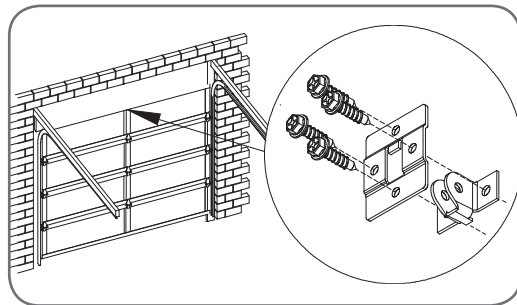

Fig. 22
The door bracket comes in two parts. The bottom plate with two mounting holes is used on its own for one piece doors. For sectional doors, the top plate is placed over the bottom plate and is fixed with four (4) screws (Fig. 22).
- a. Mount the door bracket, or bracket assembly, on the door's centre line one-third down the top panel (Fig. 22) using M6 or equivalent screws (not supplied),